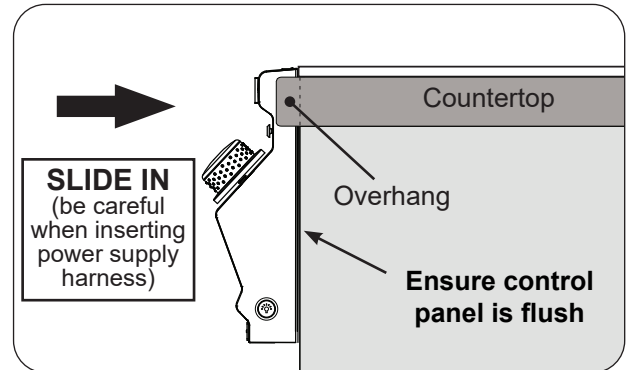

Fig. 29-2 Slide in unit (ensure flush)
- Ensure the unit fully slides in so that the control panel sits flush against the enclosure front wall. See Fig. 29-2 and see the **COUNTERTOP OVERHANG** section in **ENCLOSURE REQUIREMENTS** for details.